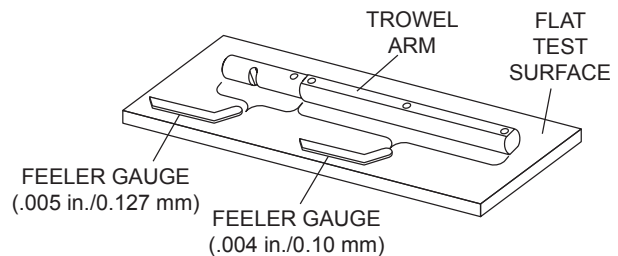

Figure 55. Checking Trowel Arm Flatness
- Check each of the six sides of the trowel arm (hex section). A feeler gauge of 0.004 in. (0.10 mm) should not pass between the flat of the trowel arm and the test surface along its length on the test surface (Figure 55).